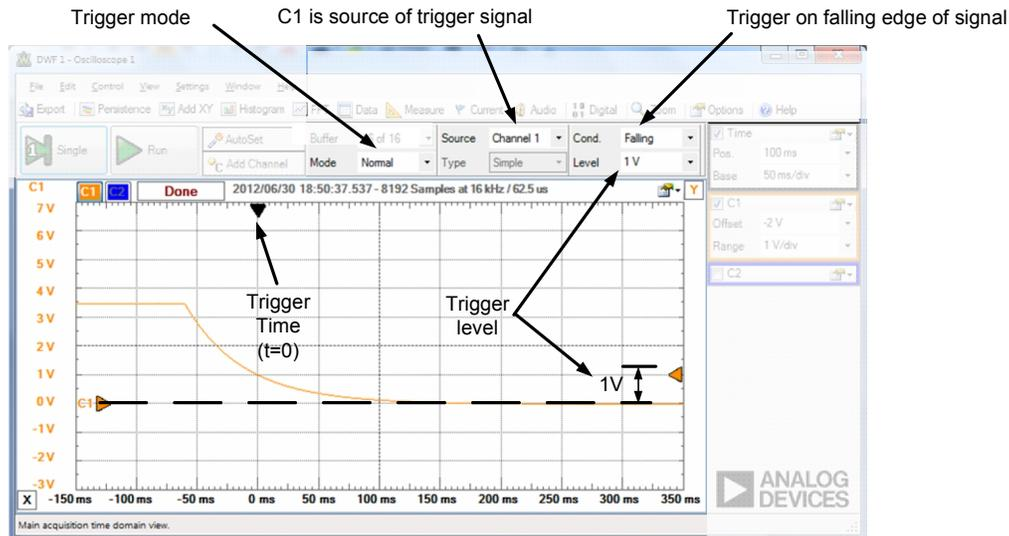

Figure 2. Example trigger settings and resulting waveform.
- *Cond* and *Level*: These options specify the waveform feature used to set the trigger. *Cond* specifies a condition on the trigger – this is either **Rising** or **Falling**. If Rising is chosen, the trigger will set when the signal is increasing; Falling results in the trigger being set when the signal is decreasing. *Level* sets a voltage level for the trigger. In Figure A2, example settings for this lab are shown. In this example, the trigger is set to activate when the signal first reaches 1V and is decreasing² (**Falling**). Figure 2 shows that zero time on the horizontal axis corresponds to this condition on the wave form.